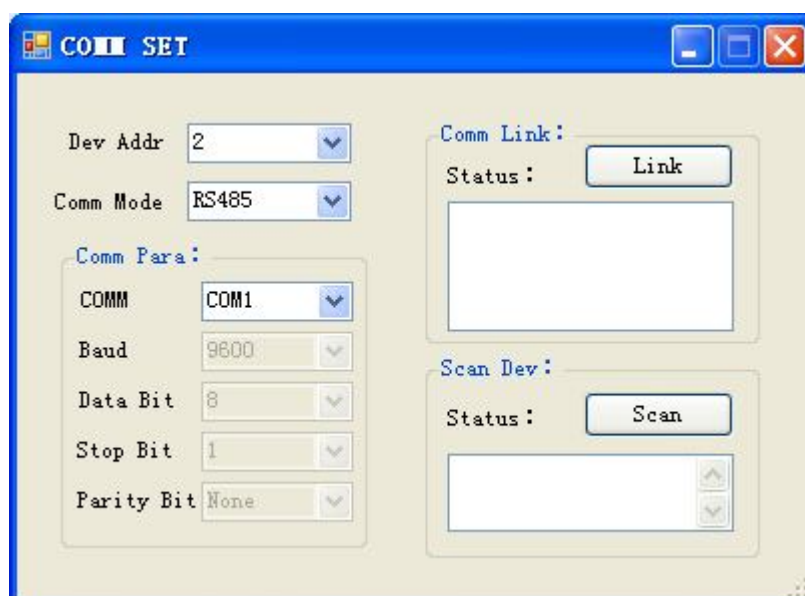

Fig. 5-15 Menu of “comm setting” under remote control
(2) Click on the sub-menu of **【Comm setting】** , as shown in fig. 5-15: